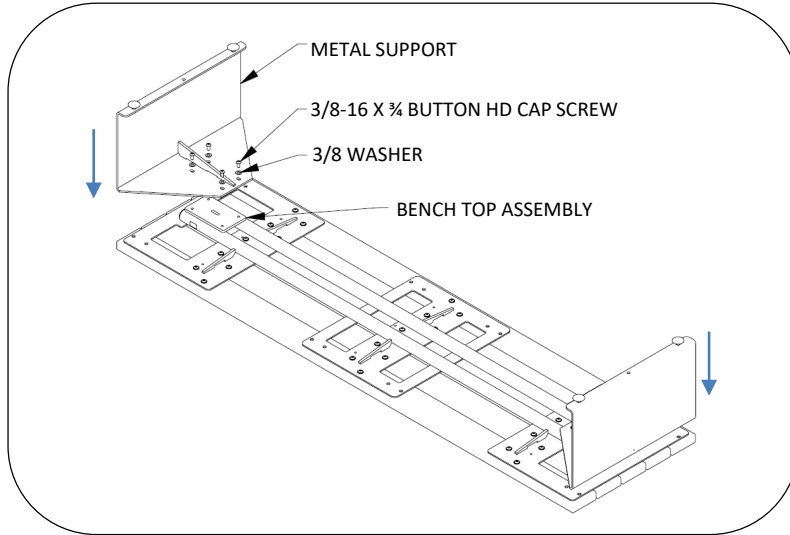

Fig. 1 – install metal legs to bench top, single bench
2. Install 4 screws and washers per support leg. See Fig. 1. Tighten fully.